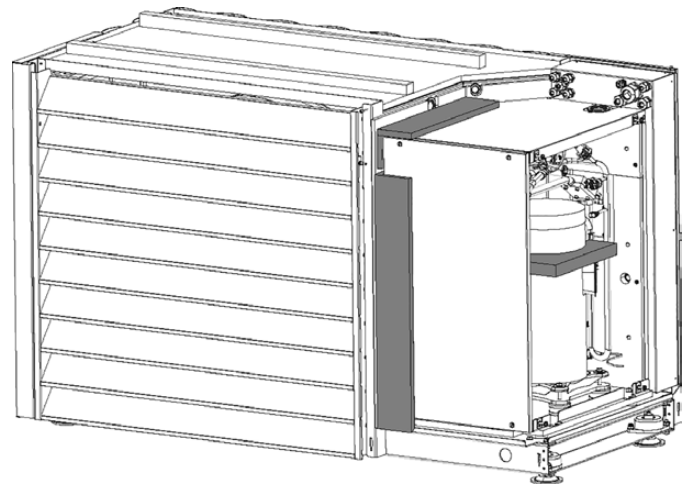

Fig. 23
- The transport locks (marked in dark grey, Fig. 23) outside and inside the refrigeration section have been removed.